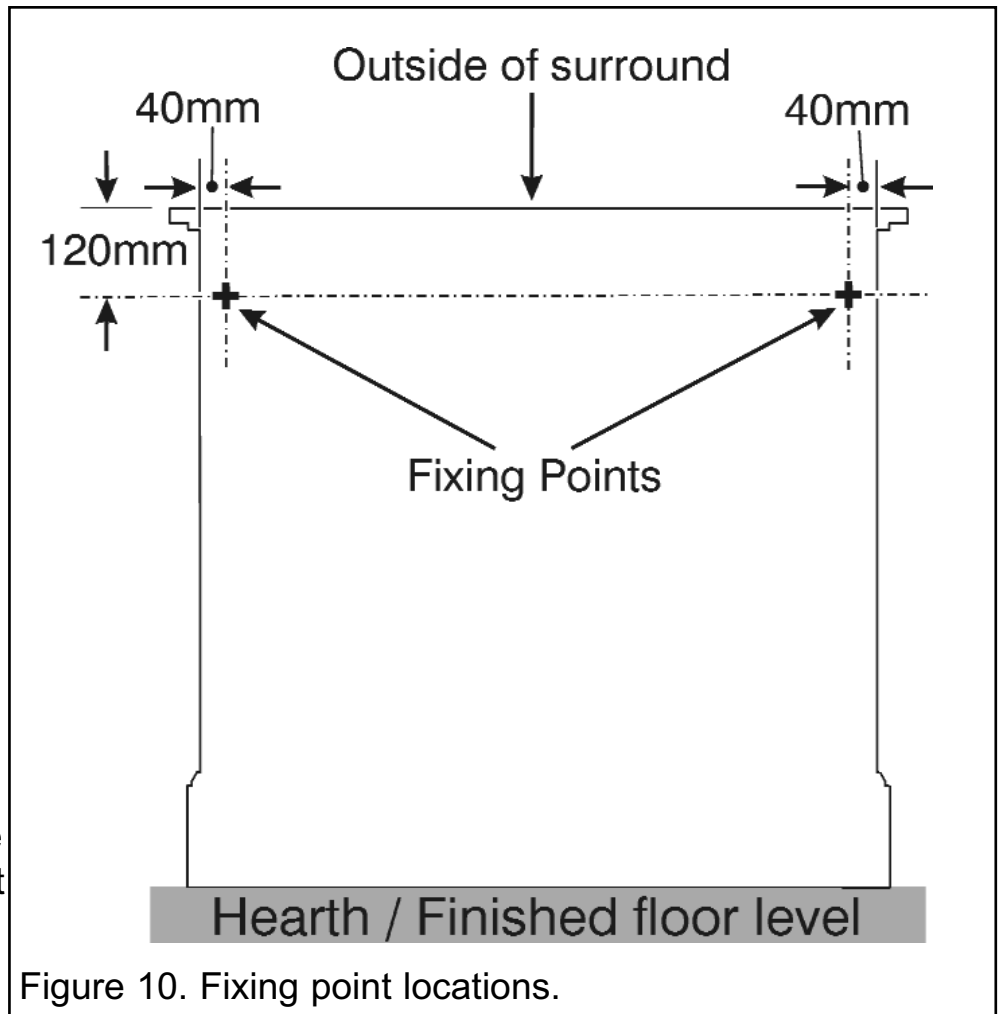

Figure 10. Fixing point locations.
● There are two wall fixing points shown in figure 10. Mark the positions of the fixing points on the wall. Drill suitable sized holes at the fixing points for the wall plugs supplied. Insert two wall plugs (J). Insert two screws (M) leaving approximately 3mm between the wall surface and the rear of the screw head. Lift the surround and locate the keyhole slots over both screw heads. The screws can be adjusted to obtain the best fit. This will require removal of the surround.